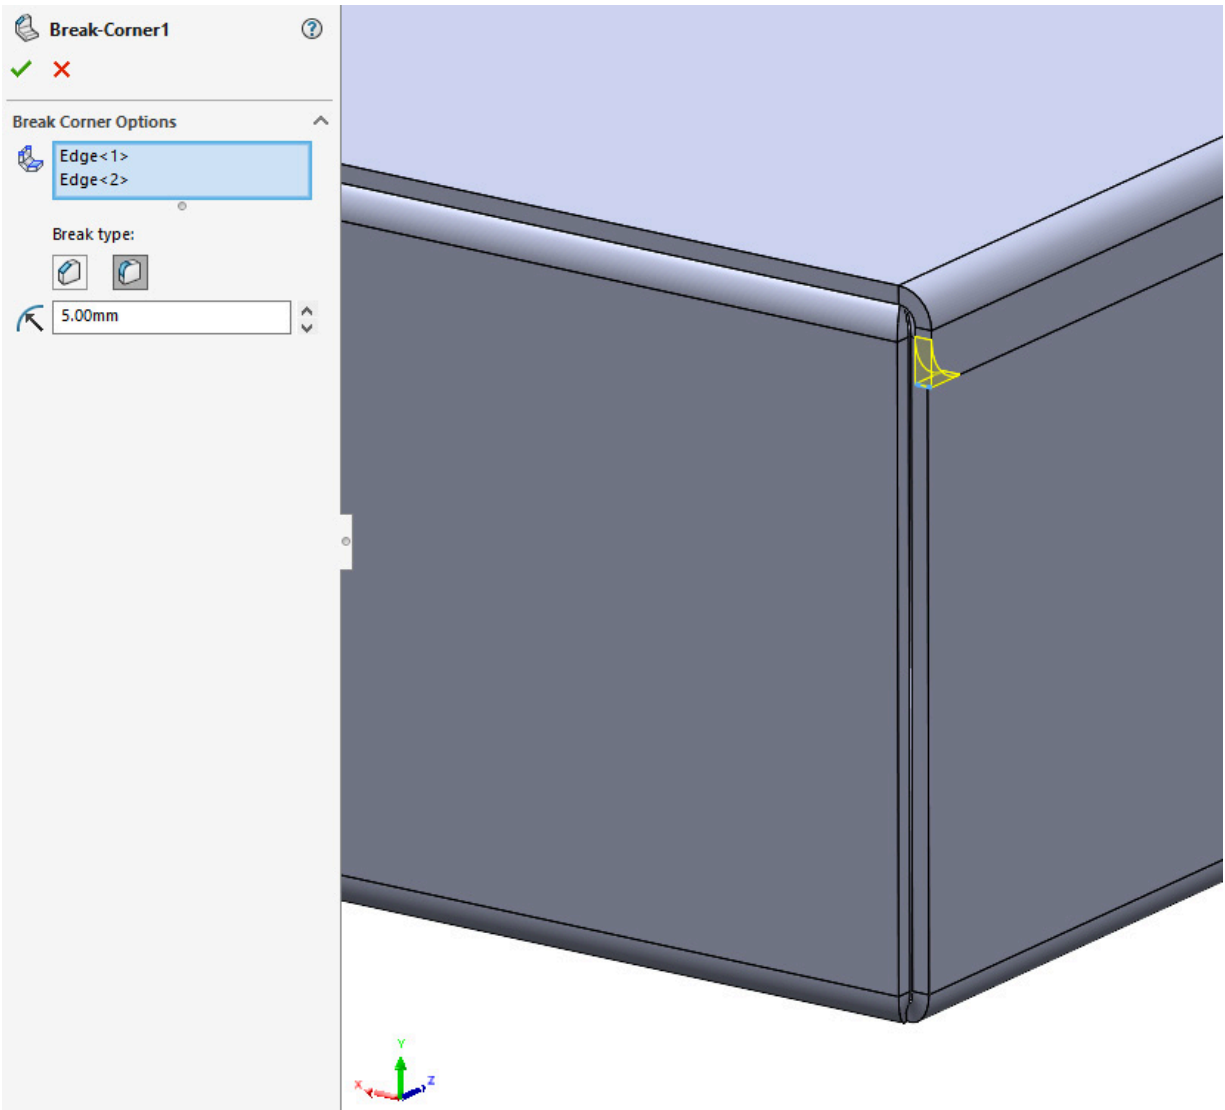

Figure 13.17 – Breaking the rear corners using a 5mm fillet
8. The rear corners of the new **Edge Flanges** are still square and could be quite sharp, so use the **Break Corner/Corner Trim** options to round these off with a **5mm** fillet (*Figure 13.17*):